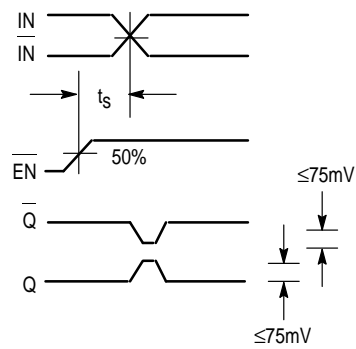

Figure 1. Setup Time
5. The setup time is the minimum time that EN must be asserted prior to the next transition of IN/IN to prevent an output response greater than ± 75 mV to that IN/IN transition (see Figure 1).